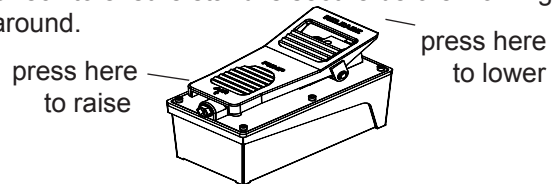

Fig. 5
5. When ready to remove engine, press horizontal portion of pump pedal until load is high enough to clear vehicle (see Fig. 5).